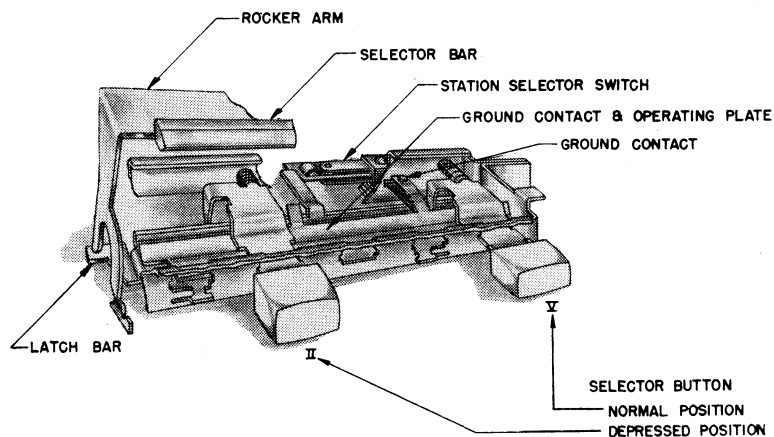

Fig. 7
### Section 6—Station Selector Bar Operation Series F1 Tuner (See Fig. 7)
### Section 7—Station Selector Button Operation Series F1 Tuner (See Figs. 7 and 8)
The Station Selector Buttons are operated by pushing the button all the way in and releasing. The sequence of operation is as follows: (See Figs. 7 and 8).
1. The selector button is in its normal position and the relationship between the selector button slide and the latch bar is shown in Figure 7 for button number V.
2. As the selector button is pushed into the position shown in Figure 7, for button number II, the latch bar is moved downward by the cam on the selector button slide. This disengages any selector button which was previously in the depressed position. The arm on the rear of the latch bar operates the trip arm of the station selector switch and causes the tuner to start seeking.
3. When the selector button is pushed all the way in, the latch bar will hold the selector button slide in the depressed position as shown in Fig. 7, button number II.